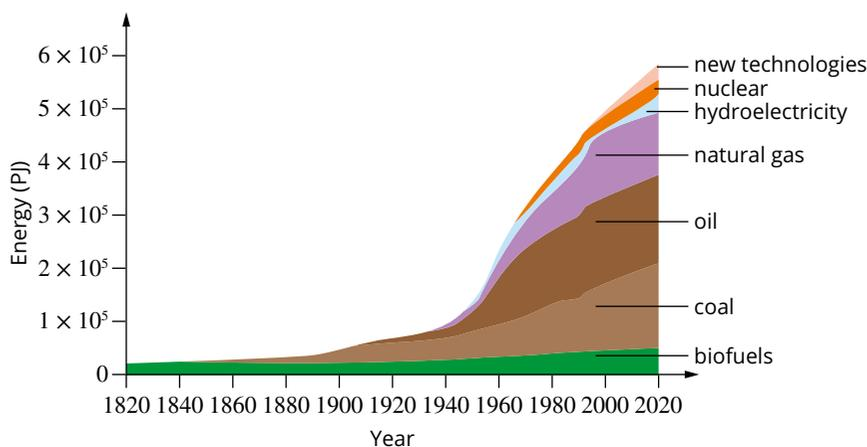

FIGURE 11.1.2 This graph shows the increase in world energy production in the last 200 years.
Given the limited reserves and concerns about the link between fossil fuels and climate change, there is considerable interest in identifying and developing new energy sources. The development of alternative sources for large-scale energy production is not a simple task. Replacement energy sources need to meet a range of requirements, such as being reliable, **sustainable** and cost-effective. Figure 11.1.2 shows the increase in world energy production from different sources.
- 3 Refer to Figure 11.1.2 on page 301 to answer the following questions.
- 6 Refer to Figure 11.1.1 on page 300 and Figure 11.1.2 on page 301 to answer the following questions.